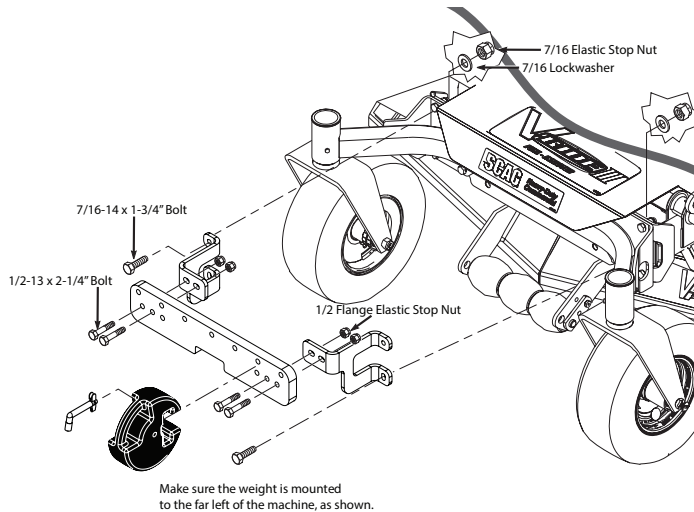

Figure 2-14. Front Weight Bar Installation
1. Assemble the front weight bar as shown in Figure 2-14.
2. Using the weight support bar as a guide, identify the corresponding mounting holes used to secure the weight support bar to the front of the machine as shown in Figures 2-14.